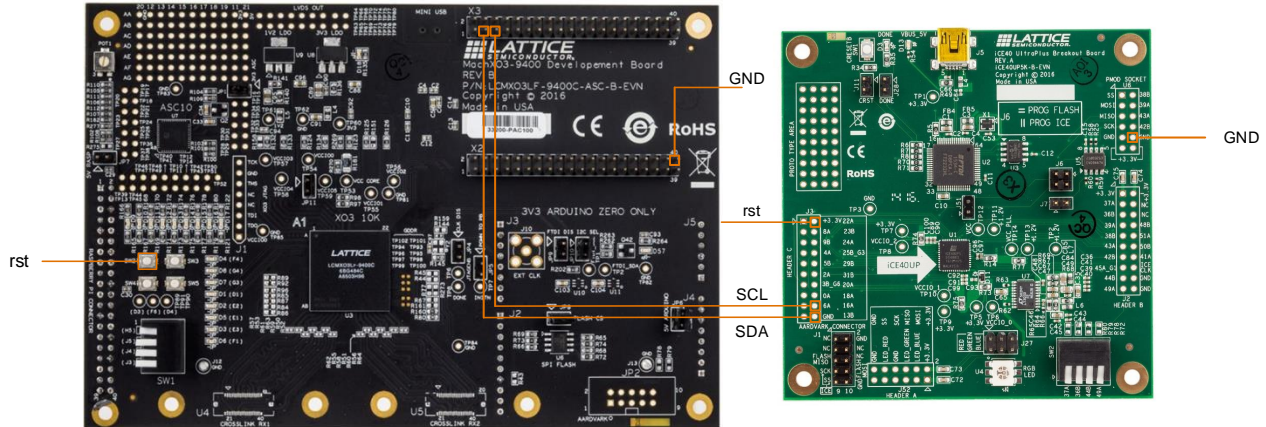

Figure 6.1. SCL and SDA Connections between the Master and the Slave
4. Assert the Reset (rst) signals of the boards shown in Figure 6.1.